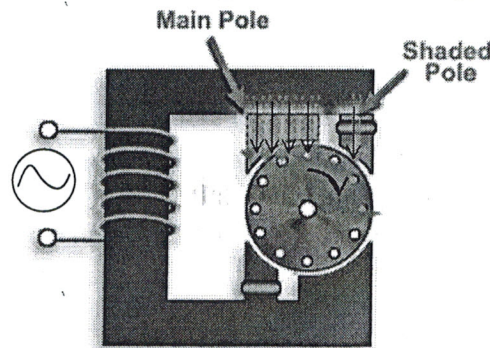

Figure 2 Shaded pole induction motor
- (b) (5) The synchronous speed of an induction motor is given by $\omega_s = \frac{120f}{p}$ in [rpm]. What are *f* and *p*? Using this formula, find the synchronous speed of the shaded pole induction motor in Fig. 2.